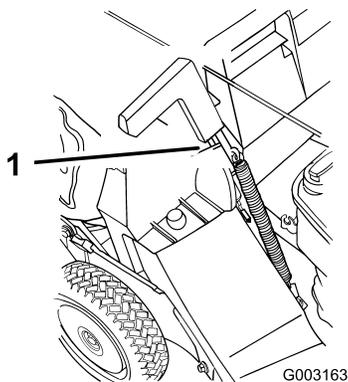

Figure 21
5. Pull the discharge door handle forward until the pin clears the catch, and move the handle rearward until the pin locks in the bag notch (Figure 21).